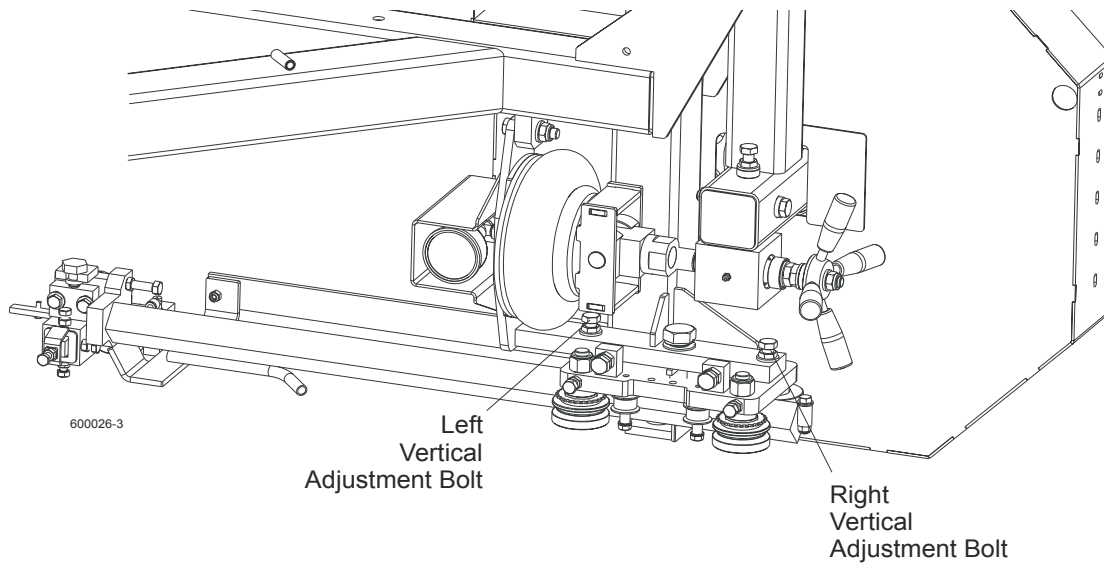

**FIG. 7-30**
**See Figure 7-30.** Adjust the blade guide arm to 1/2" (15 mm) from fully open. Measure the distance from the bottom of the blade guide mounting block to the bed rail. This measurement should be 15" (376.5 mm). If the measurements are not the same, adjust the blade guide arm vertically.